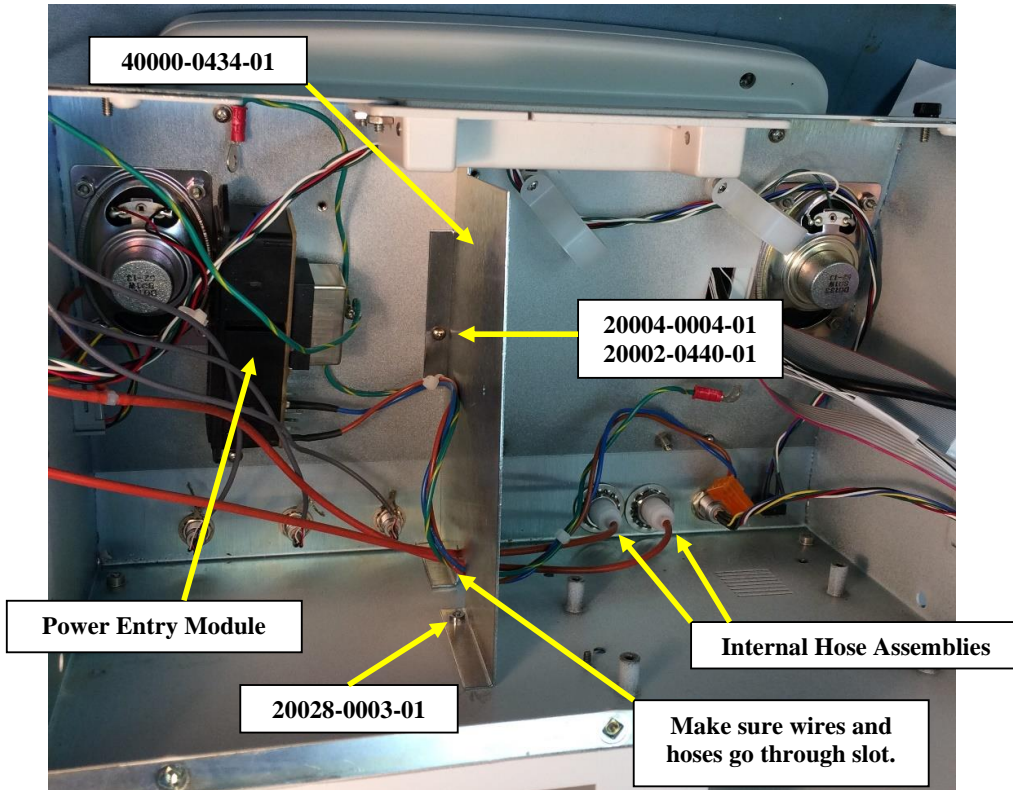

Figure 40
- 14.1. Route the green/yellow, brown and blue wires of the Power Entry Module (made in Step 8) through the slot on the bottom of the Front Inner Divider (40000-0434-01) as shown in Figure 40. Then route the two hoses, of the Internal Hose Assemblies, through the same slot.
- 14.2. Attach the Divider to the Chassis using a 4-40x1/4" Pan Head Screw (20004-0004-01) and a #4 Lockwasher (20002-0440-01) as shown in Figure 40.
- 14.3. Add a 4-40x3/16" Flat Head Screw (20028-0003-01) into the Divider from the bottom of the chassis as shown in Figure 40.